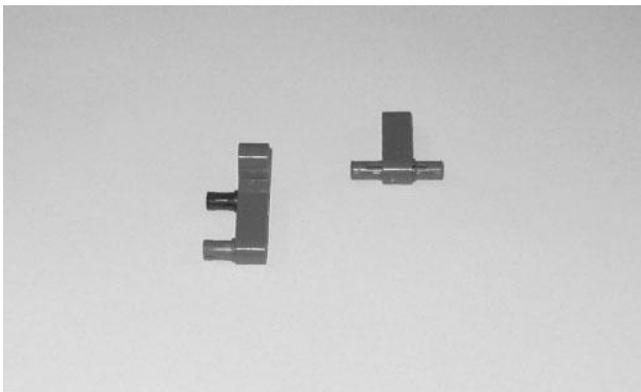

Figure 12.22
Step 1: Connect a connector peg with friction and a 3M connector peg with friction and a cross axle to the 2×4 perpendicular beam, and then connect the 3M straight beam to a 3M connector peg with friction, as shown in Figure 12.22.